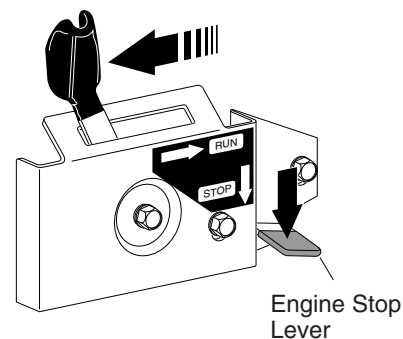

Figure 19 - Pushing Down Engine Stop Lever
3. Push down engine stop lever (see Figure 19). This releases engine run lever and stops engine. Do not stop engine with the decompression lever.